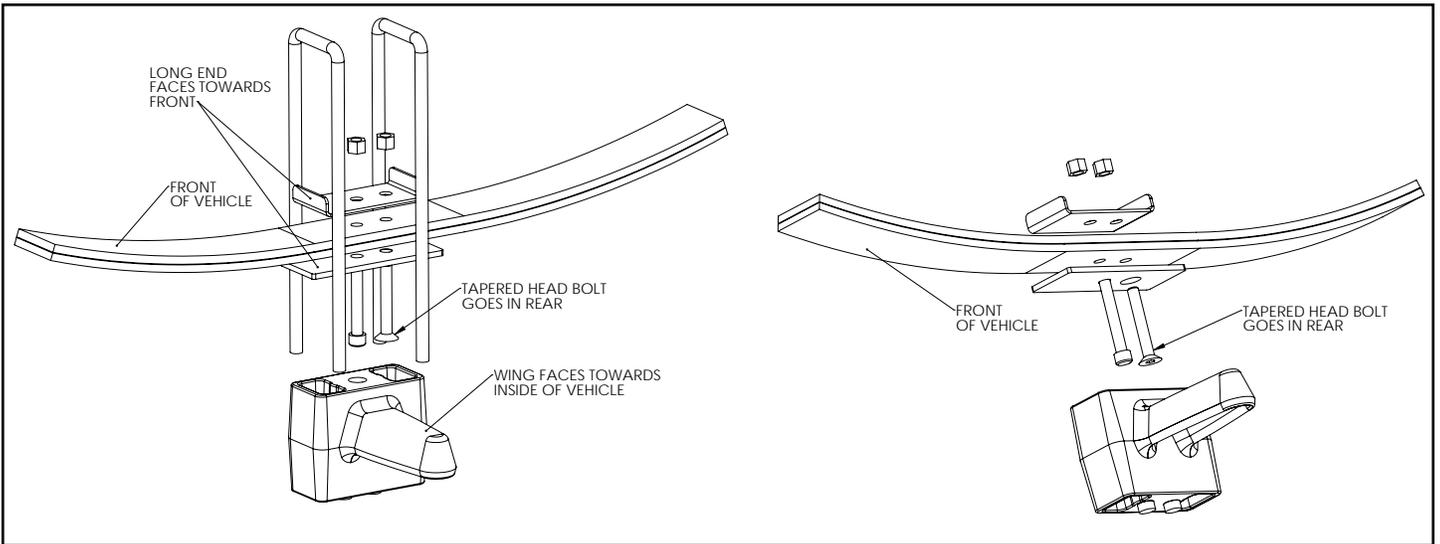

Fig 23
62. Place the plate on the bottom of the leaf pack and secure with new center pin in the 'forward' hole and flat head allen bolt through the 'rear' hole. Install new u-bolt retaining plate on top, it will be offset 'forward'. Tighten to 35 ft-lbs. (Fig 23, Fig 24, Fig 25)